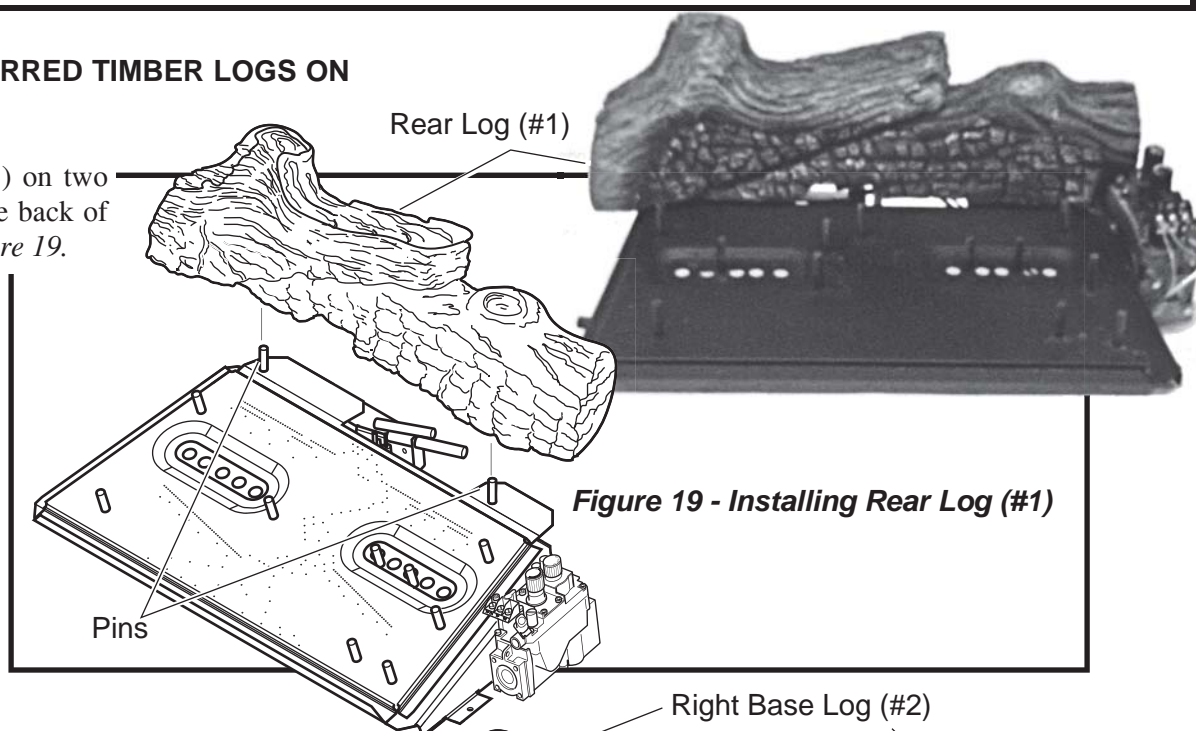

Figure 19 - Installing Rear Log (#1)
1. Place rear log (#1) on two pins located on the back of the grate. See Figure 19.